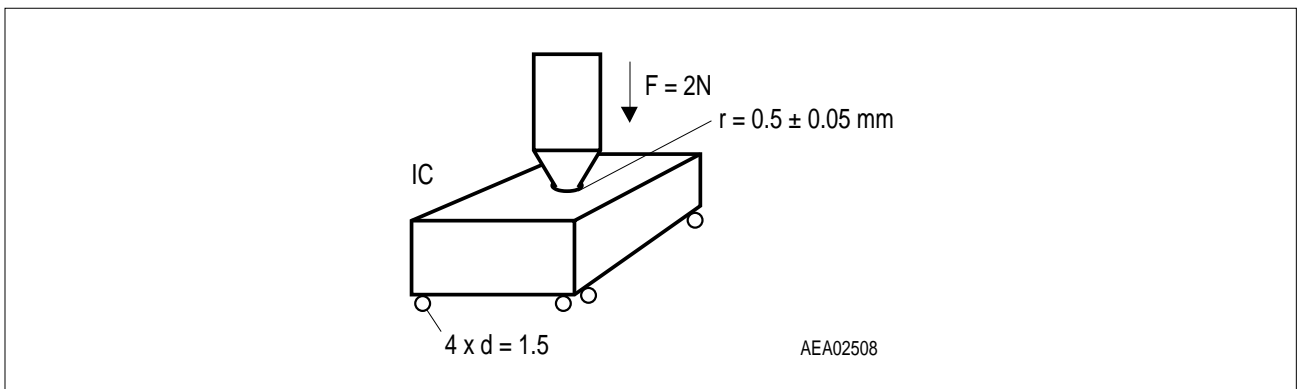

Figure 7 Setup for Piezo Measurements
- 6) For definition see **Figure 7**.